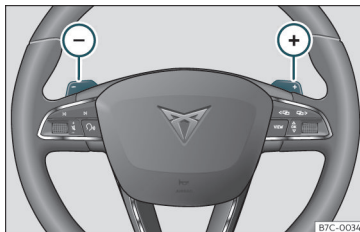

Fig. 199 Steering wheel: automatic gearbox levers
- Press the gearshift paddle \oplus to select a higher gear \ggg **Fig. 199**.